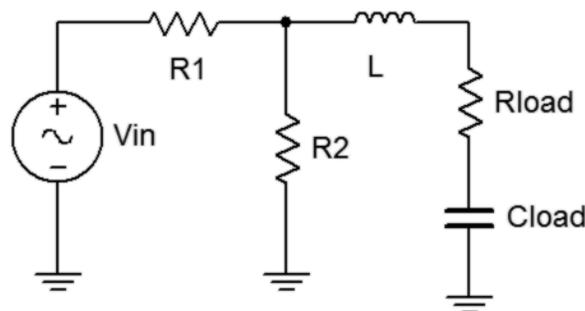

Figure 11.3
6. To verify that Thevenin's theorem also works with an inductive source and a complex load, repeat steps 1 through 5 in like manner but using figure 11.3 with  $R_1=1.5\ \text{k}\Omega$ ,  $R_2=2.2\ \text{k}\Omega$ ,  $L=10\ \text{mH}$ ,  $R_{\text{load}}=1\ \text{k}\Omega$  with  $C_{\text{load}}=100\ \text{nF}$ . Set the generator to a 10 kHz sine wave at 2 V p-p. Record results in Tables 11.3 and 11.4.